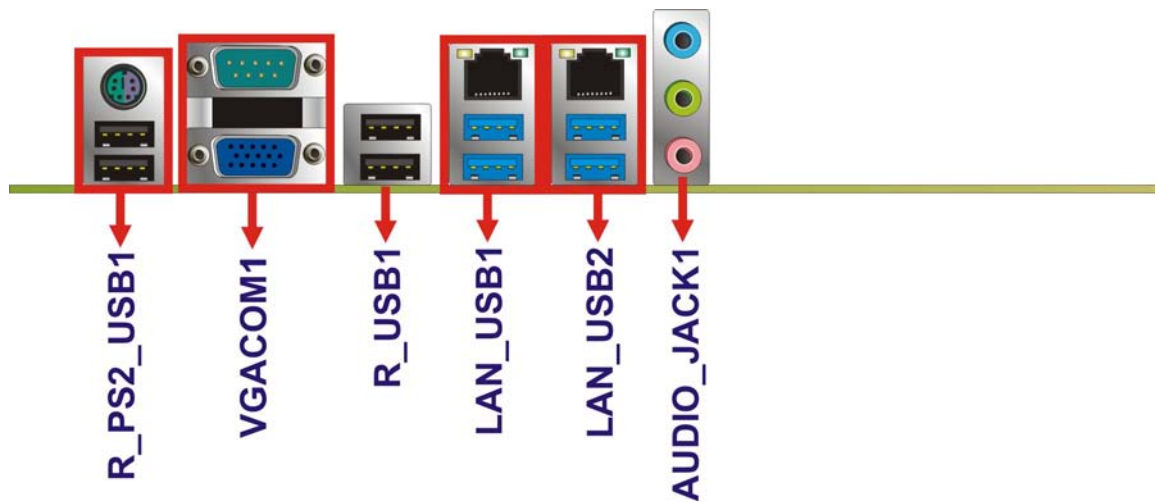

Figure 3-26: External Peripheral Interface Connector
CN Location:	See Figure 3-26
CN Location: See **Figure 3-26**
- CN Location: See **Figure 3-26**